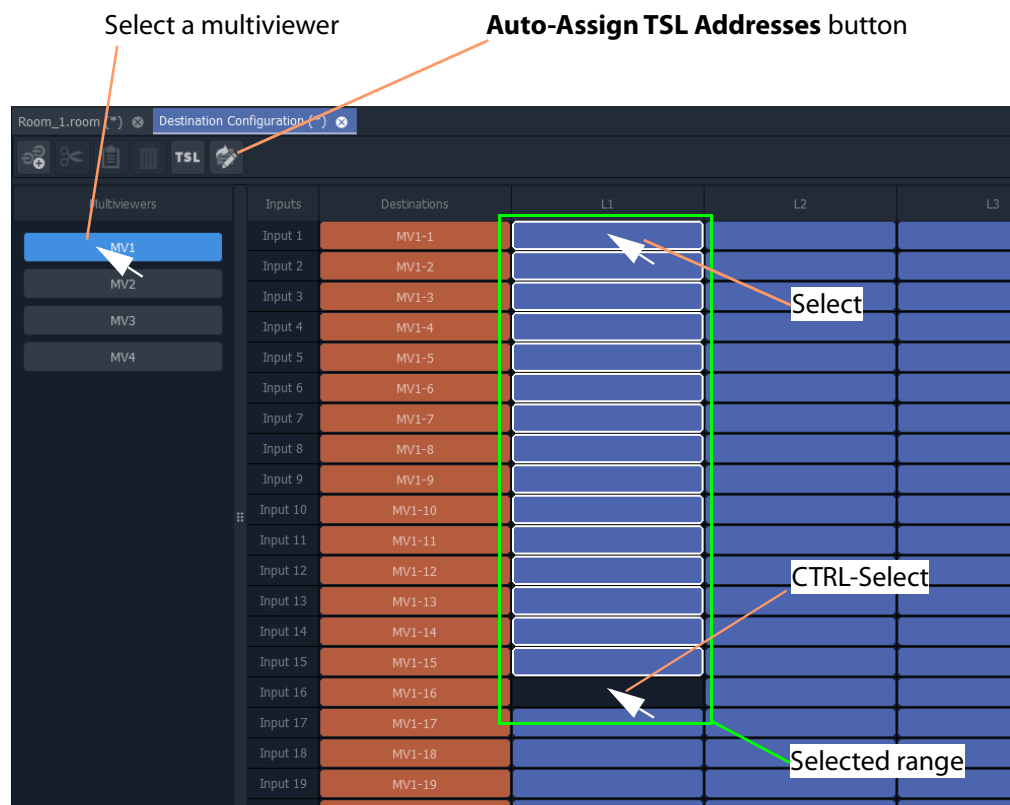

Fig. 9-3: Destination Configuration Tab - TSL Tally Level Config Columns
- 1 Select a multiviewer. (See Figure 9-3.)
This selects the TSL addresses to be filled out. See Figure 9-3.